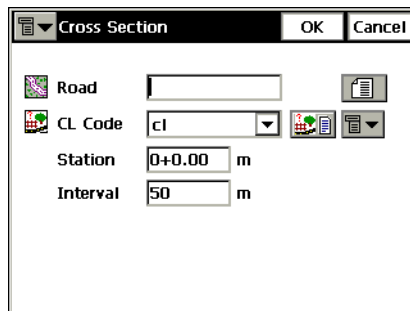

Figure 6-34. Cross Section
2. In the **Cross Section** screen (Figure 6-34), apply parameters for the station where the survey will be performed and tap **OK**: the road name, the code and attributes of the center line, the station where the cross section is surveyed, and the interval distance to the next station. If the road has not been created, define the plane.